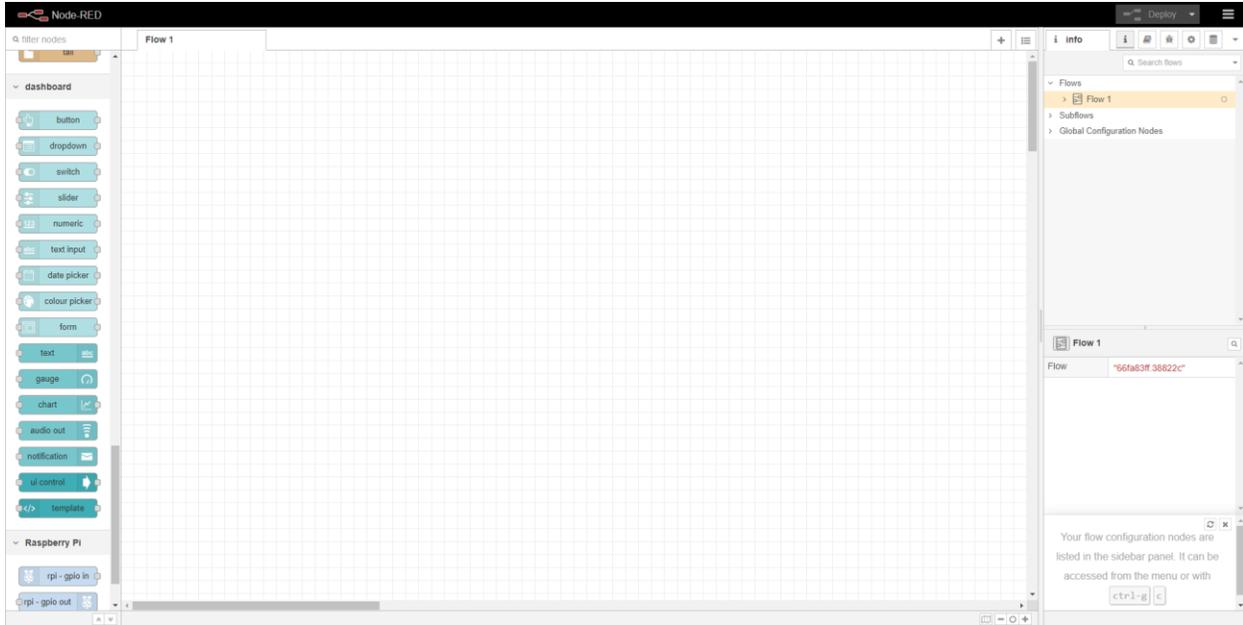

Figure 15
1. In the node palette on the left side, scroll down to the bottom to make sure that the section of nodes called ‘dashboard’ is installed like in Figure 15 below.